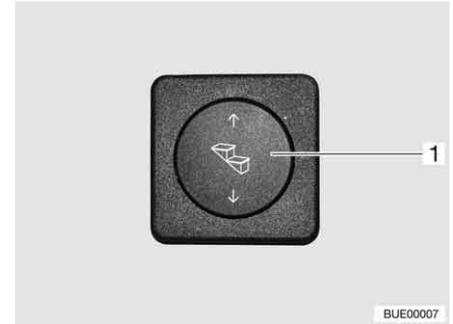

Fig. 7 Operating button for entrance step
- Press the rocker button (Fig. 7,1) down and hold it pressed (at least 3 seconds) until the entrance step has extended completely.
- Press the rocker button (Fig. 7,1) up until the entrance step has retracted completely.